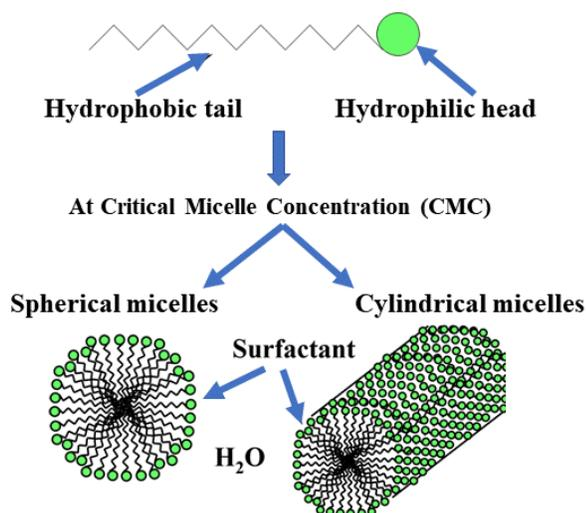

Figure 34 – Surfactant Micelles
- VIII.2.3 When the surfactant concentration is greater than the CMC, the surfactant forms aggregate cylindrical and spherical type structures called “micelles” as illustrated **Figure 34**. As the micelle forms, the surfactant hydrophilic heads position themselves so they are exposed to the water, while the lipophilic tails are grouped together in the center of the structure protected from the water. Micelles are what provide the detergency of a surfactant. As the surfactant concentration increases other micelle structures can form. The hydrophobic/lipophilic (oil-loving) tails of the surfactant micelle are what surrounds soils and releases them from the surface being clean, and depending on the specific ionic nature can perform functions such as oil emulsification, foaming, and antibacterial. To provide adequate reserve of micelles for cleaning, concentrations of 5 to 20 times the CMC are generally used. Basic spherical and cylindrical micelles can measure from about 4 to 15 nano-meters (nm) = 0.004 to 0.015 microns, while oil emulsions can measure 10 times greater.